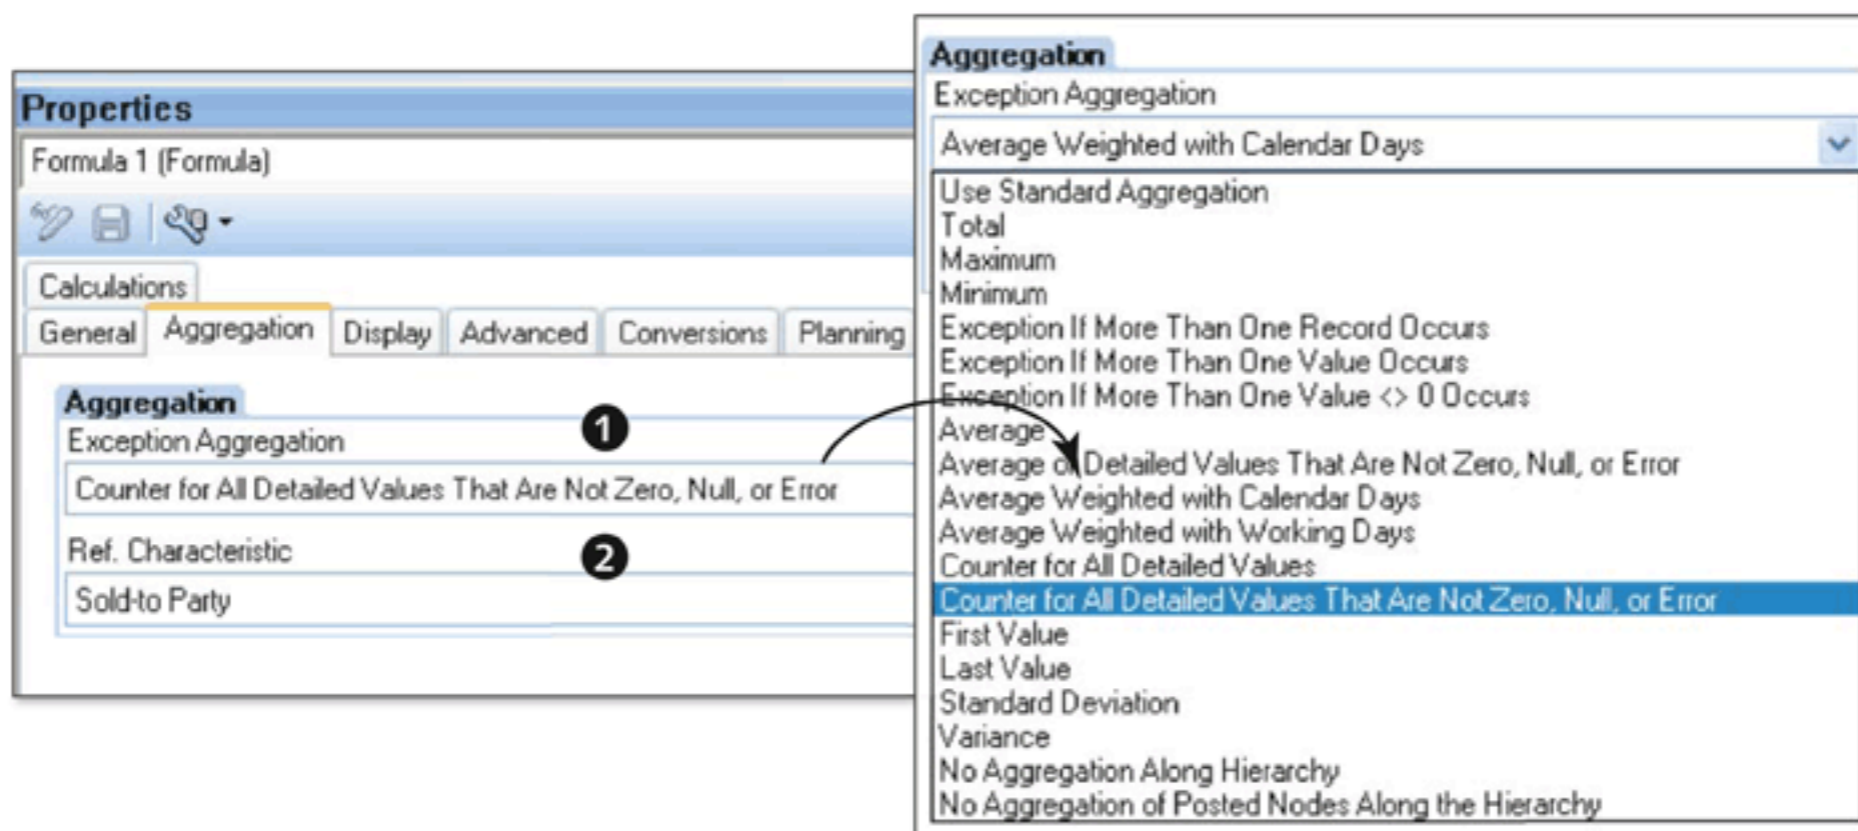

Figure 9.72 Key Figure Properties: Aggregation
On this tab page, you can specify how the aggregation should take place for the key figure when the query is executed. This tab is enabled only for query elements of type formula or CKFs (see Figure 9.72).
By default, the key figures are aggregated using standard aggregation. In a standard aggregation, the data read from the InfoProvider is first aggregated by the characteristics included in the rows/columns of the query. Then the formula is applied to the data after this aggregation. The EXCEPTION AGGREGATION option (1) allows you to define if you want to aggregate the data in a specific manner and with respect to the reference characteristic. The different options of EXCEPTION AGGREGATION are available under the dropdown shown in Figure 9.72.